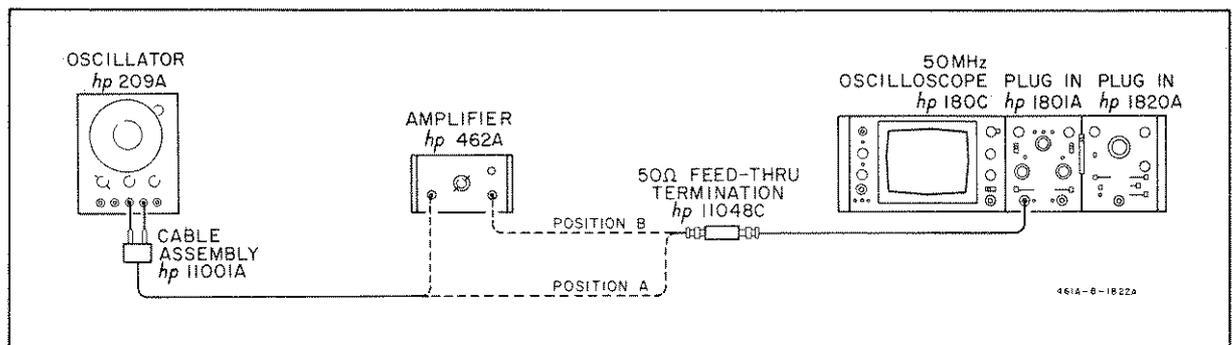

Figure 5-6. Pulse Duration Check
- a. Connect the circuit as in Figure 5-6, position A.
- c. Connect the circuit as in Figure 5-6, position B, with the 461A or 462A in the 20 dB GAIN position. The base line, or level after the pulse, should be restored within 1 us after the trailing edge of the pulse. (Dual channels of the oscilloscope can be used to show input and output pulses simultaneously).